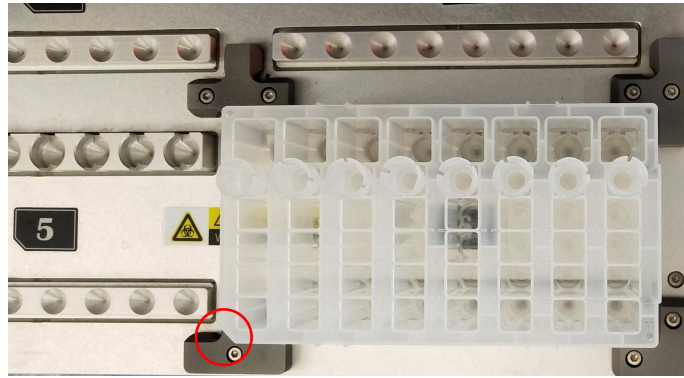

Figure 2. 48-deep well plate
**ⓘ Note:** The user should ensure the marked notch of the plate of the 48-deep well plate is on the left, which is shown in Figure 2.